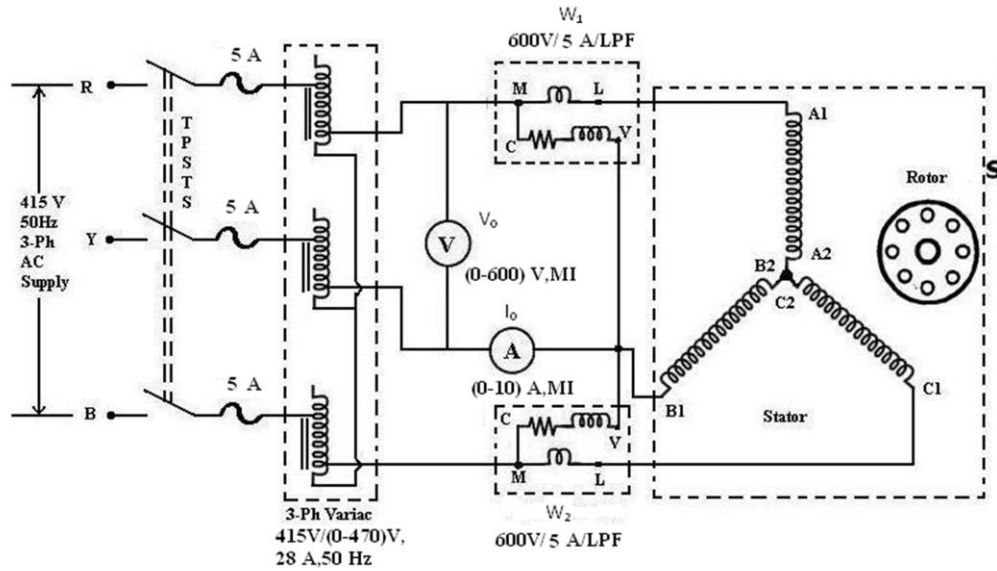

Fig 10.1: Circuit Diagram for no-load test
1. Connect the circuit as per the fig 10.1.